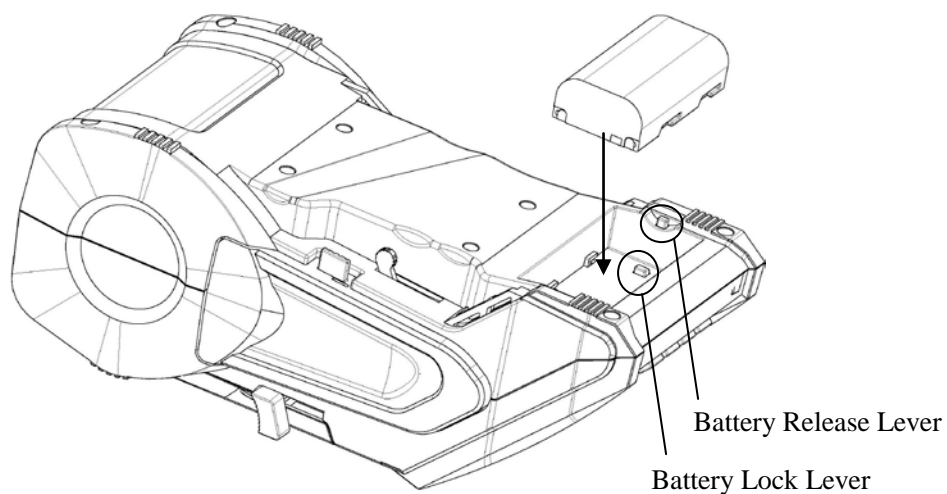

Figure 2-4
1. Place the battery into the V6 as shown (Figure 2-4)